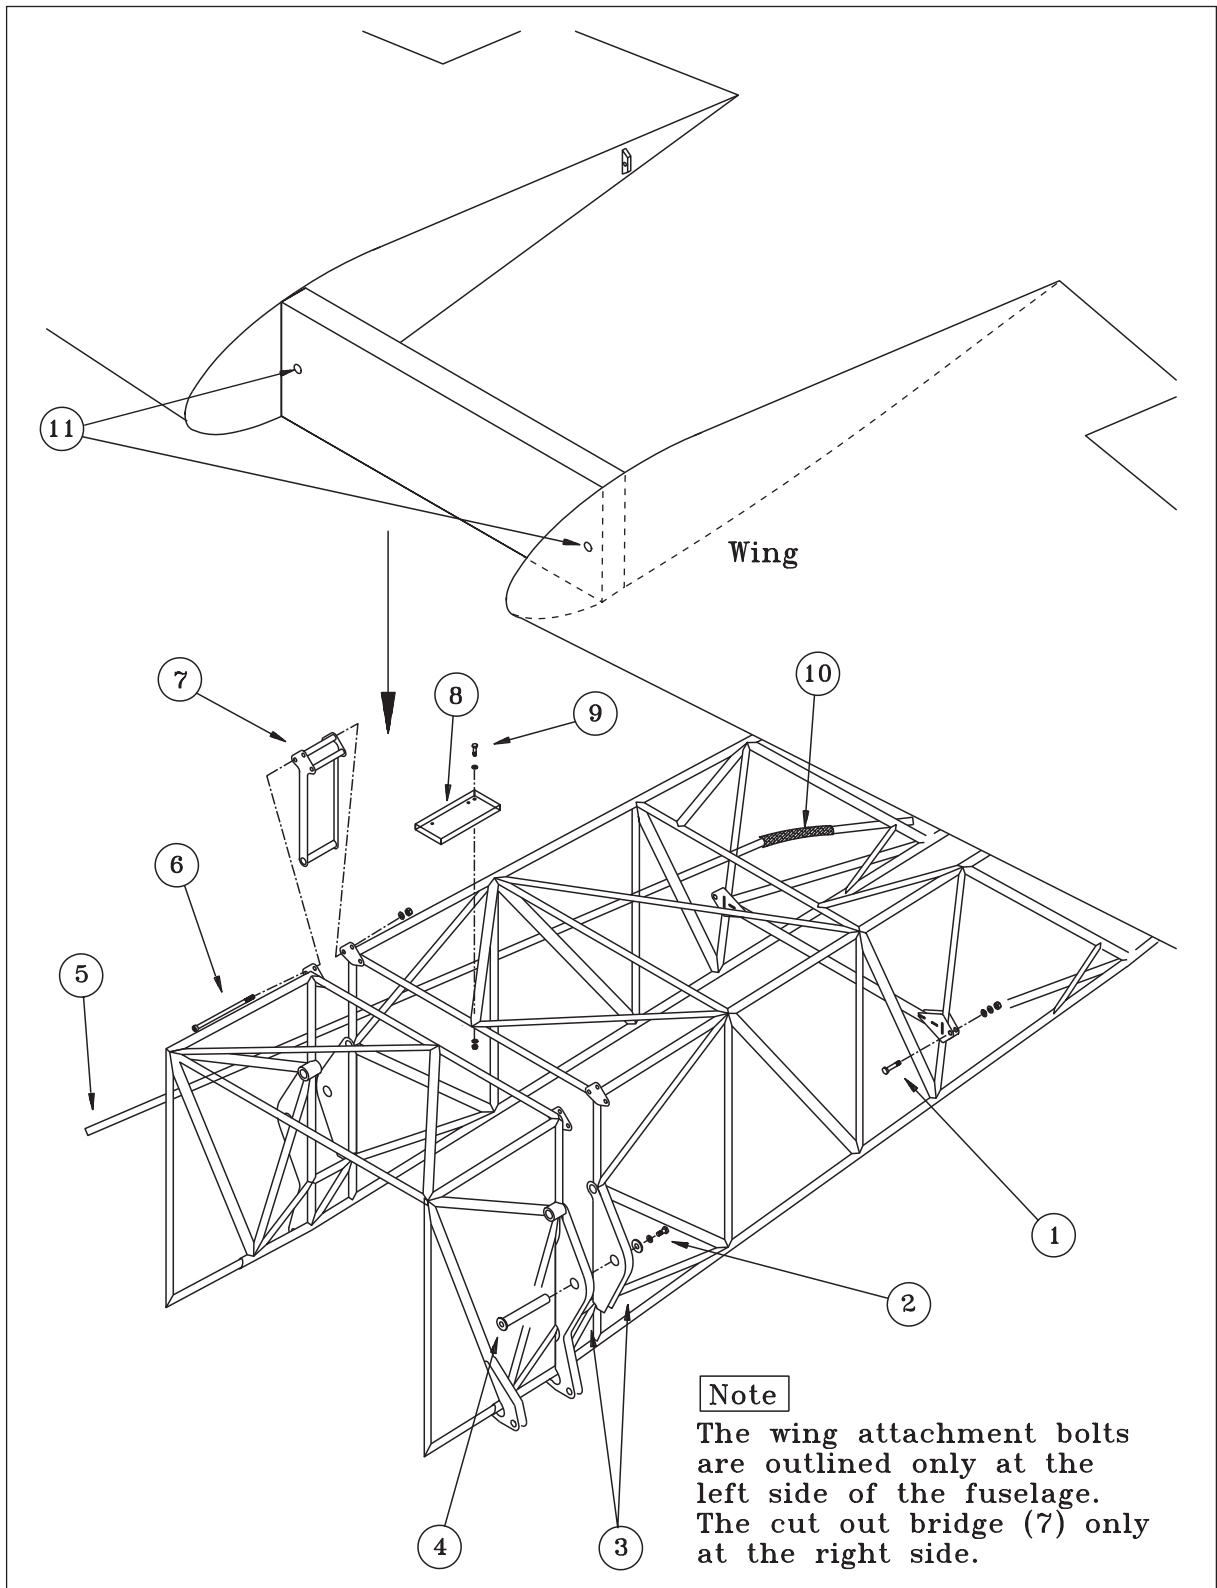

Figure 3
- 6 Slide in shims if necessary and install the main spar tubular bolts (4, Figure 3) to the wing flange bushings (11) from front to rear.
- 7 Secure main spar tubular bolts with LN 9038-08020K (2) bolts or LN 9037-08020K (2), DIN912 M8 washers and special aluminum washers (30x11x4). Torque security bolts for fastening and subsequently safety wire.
- 8 Install upper longeron cutout bridges (7) using at each side 3x DIN912 M8 x 180, 3x DIN125 M8 washers and 3x LN9348-08 stop nuts at the top and 1x DIN912 M10 x 230 bolt, DIN125 M10 washer and LN9348-10 stop nut at the bottom (6). Check cutout bridges for RH and LH marking. Install the bolts from front (firewall) to rear (aircraft tail). Torque stop nuts for fastening.
- 9 Install shear bridge (8). Use two LN 9037-06066 and six LN 9037-06038 bolts (9) with DIN 125-M6 washers and LN 9348-06 stop nuts.